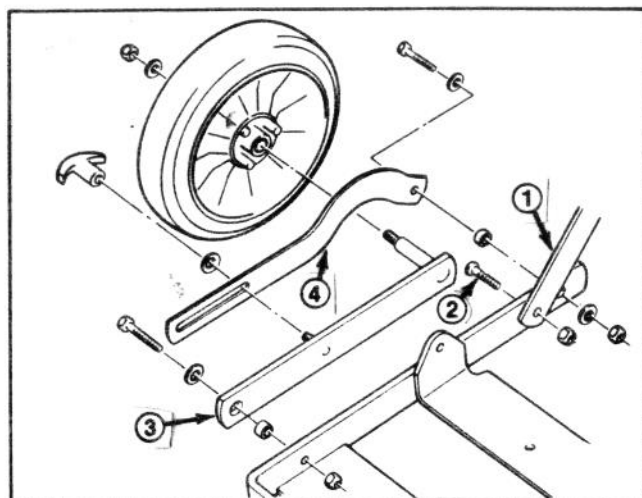

Figure 1
2. Remount lower handle to frame with a button head capscrew and locknut (Fig. 1).
3. Secure wheel mount to front hole in side of frame with a capscrew, washer, spacer and locknut (Fig. 1).
4. Secure axle link to rear hole in side of frame with a capscrew, (2) washers, spacer and locknut (Fig. 1).
5. Position wheel mount stud thru slot in axle link and secure with a Belleville washer and T-handle (Fig. 1).
6. Mount wheel to wheel mount with wheel washer and locknut (Fig. 1).